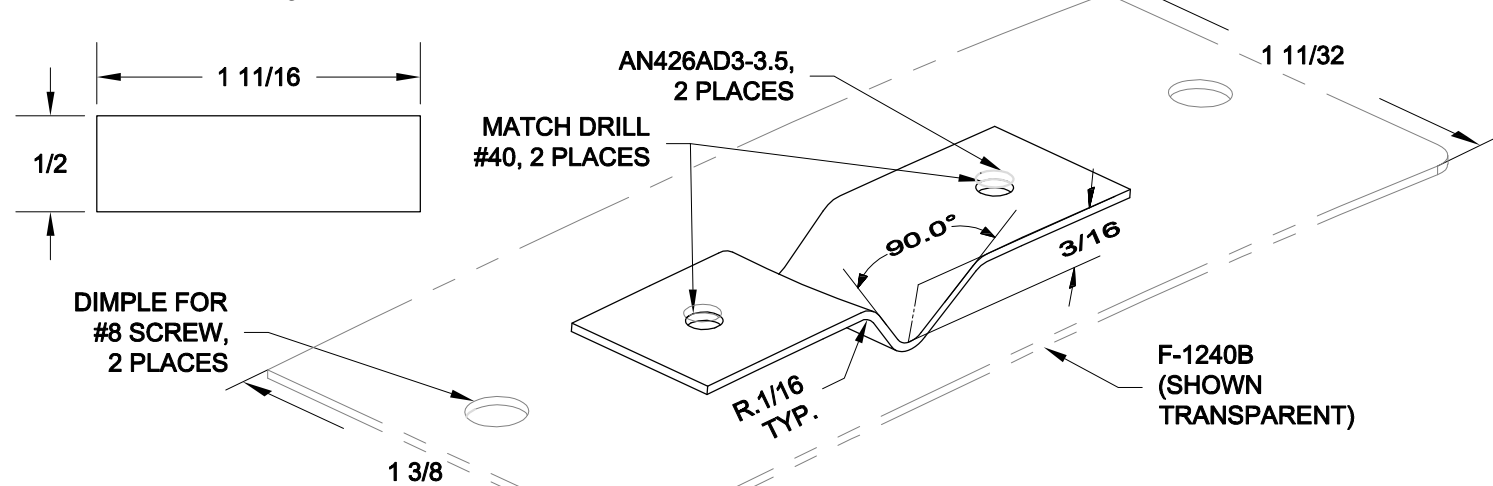

FIGURE 2: MAKING THE F-1240C CLIP
Step 5: Make the F-1240C Clip from provided AS3-025 as shown in Figure 2. Match-Drill #40 to the F-1240B Cover Plate. Test fit the clip to the fuselage to determine which side goes up then deburr and dimple the rivet and screw holes in the clip and the cover plate then rivet the clip to the cover plate using the rivets called out in Figure 2.